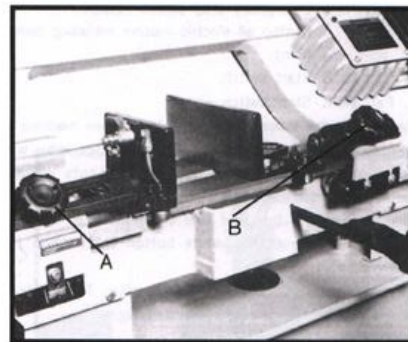

Fig. 8
2. Loosen knob (A. Fig. 8) and bolt (B).